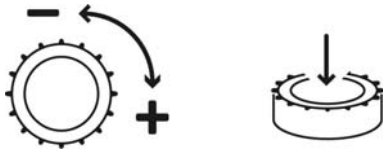

Fig. 11: Operation of the operating knob
$n=f(AI)$ (manual control mode – see Fig. 11)
- The **LCD** shows the operating statuses of the pumps, the controller and the frequency converter. The menu selection and parameter input are performed using the operating knob. Turn the knob to change values or to scroll through a menu level; press it in order to select and confirm (Fig. 11).